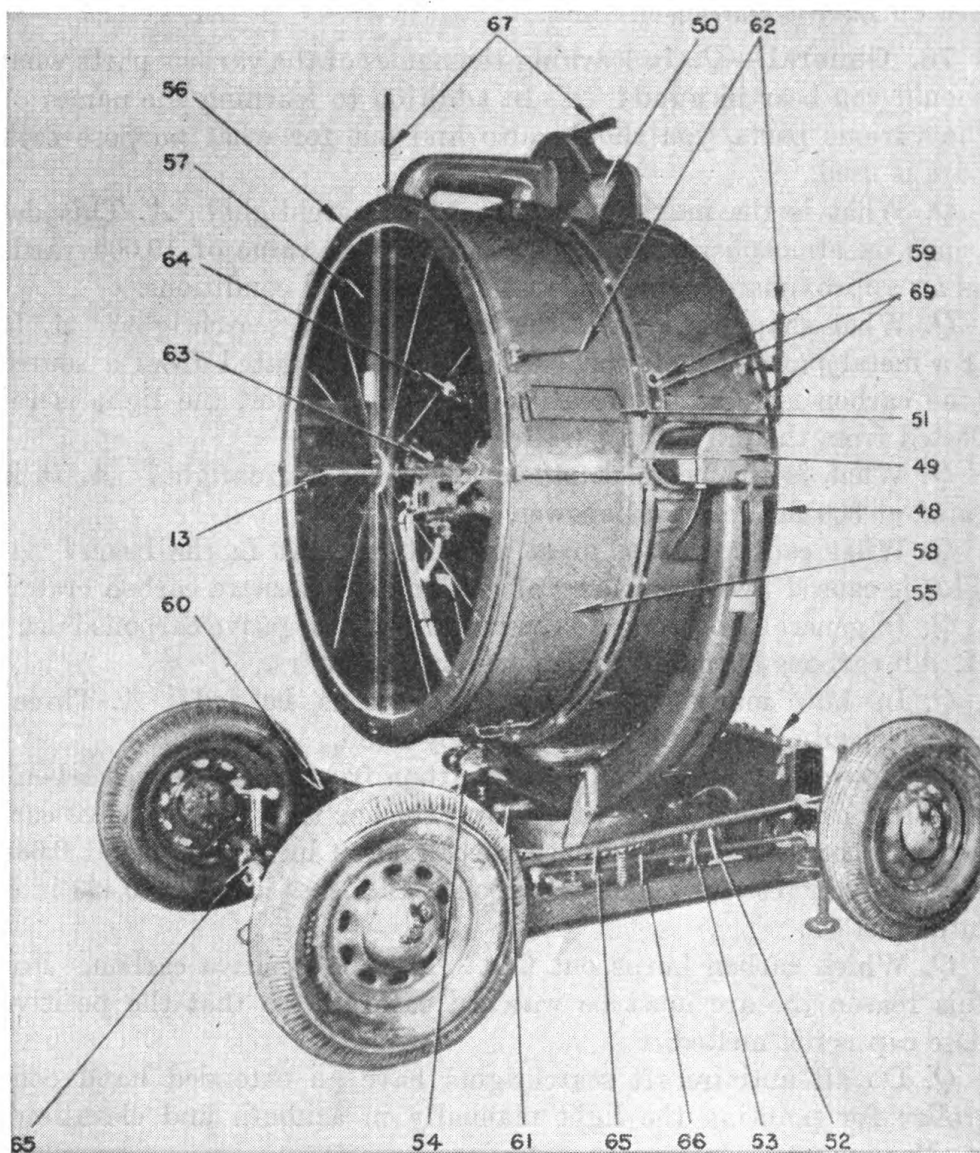

FIGURE 118.—Sperry M1941 mobile searchlight (front quarter view).
**79. Sperry searchlights.**—*Q.* Point out the various parts of the Sperry searchlight with which your unit is equipped. While pointing out each part describe its use. *A.* See figures 118, 119, 120, and 121.